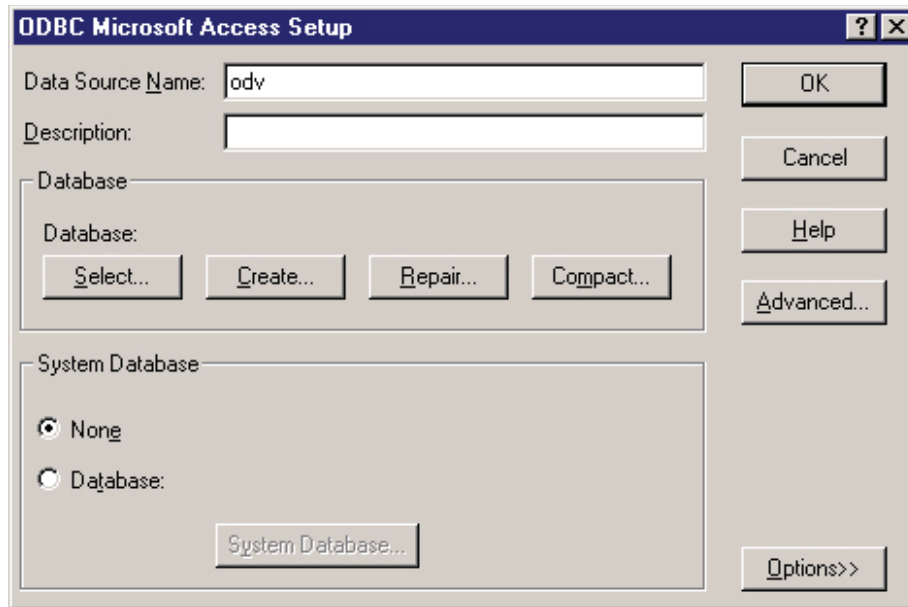

Figure 258 Entering the Data Source Name
12. Type **odv** in the **Data Source Name** field. See Figure 258.